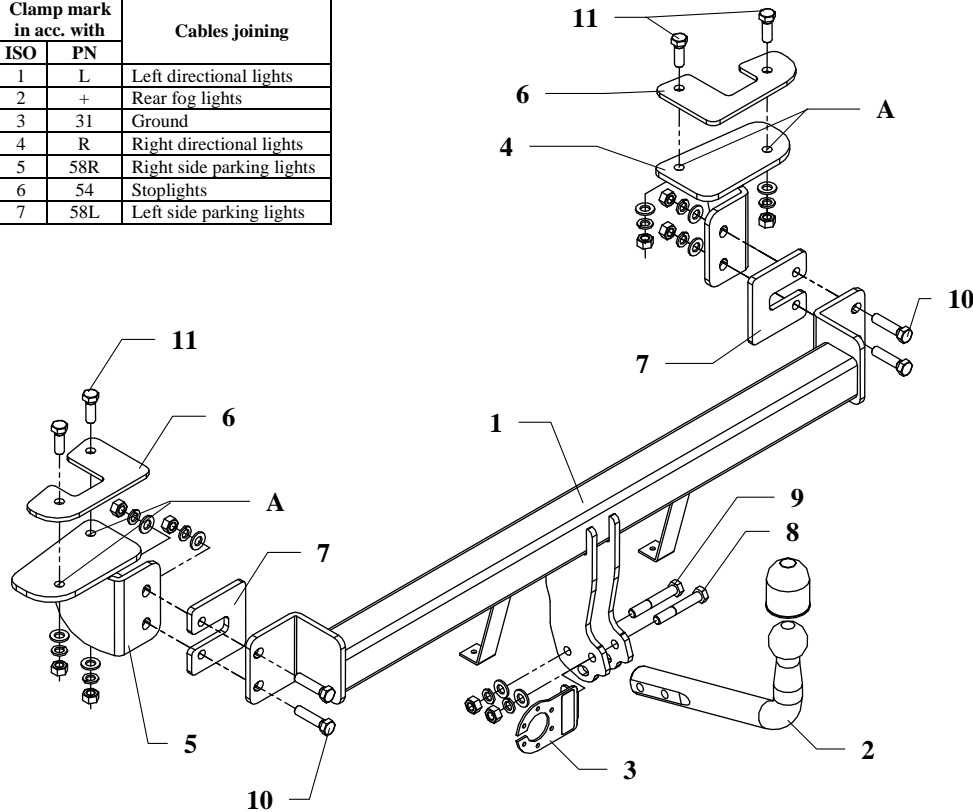
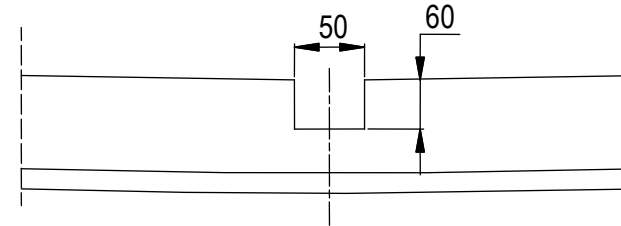

Fig.1
Fig. 2
3. According to fig. 1 fix loosely brackets (pos. 4 and 5), use fish-plates (pos. 6).
4. To rear side of car fix the main bar of the towing hitch (pos. 1) using fish-plates (pos. 7). Fish-plates (pos. 7) should be placed between rear side of car and main bar of towing hitch.
5. Install the bumper (without filling) after its cutting – see fig. 2.
7. Fix tow ball (pos. 2) using bolt M12x75mm (pos. 8) and M12x70mm (pos. 9). With bolt M12x75mm fix also a socket plate (pos. 3). See figure 1.